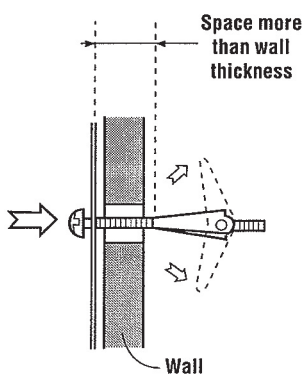

Figure 13
2. **IMPORTANT** Use the mounting template provided to Use wood screws to attach mounting plate to the stud or studs. Use Toggle Bolts to attach mounting plate through the holes **UNLESS THOSE HOLES ARE LOCATED ON THE STUD**. Insert one Toggle Bolt where appropriate (these correspond to holes of the Wall Template) and put the Toggle Nuts onto the Toggle Bolts. Figure 13. Refer to instructions in Wall Template.